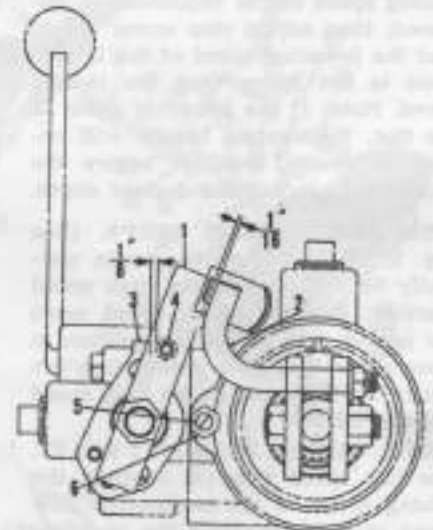

Fig. MH462—"Depth-O-Matic" cylinder and control valve adjustments.
355. **STOP LEVER.** (See Fig. MH462). Adjust stop lever (1) to obtain 1/16 inch clearance between the stop lever and the follower arm (2). The stop lever can be moved by loosening the retaining nut.
356. **STOP PLATE.** (See Fig. MH462). Loosen retaining screws in stop plate (3) and move the plate until there is a clearance of 1/8 inch between it and slow stop screw (4) also shown in MH461.
360. SHUT-OFF VALVE. (See Fig. MH462). The adjustment of shut-off valve (5) either places the tractor mounted "Depth-O-Matic" cylinder in or out of operation, depending upon the equipment being used. For mounted equipment, which used the mounted cylinder, the screw should be turned out. For pull-behind and other